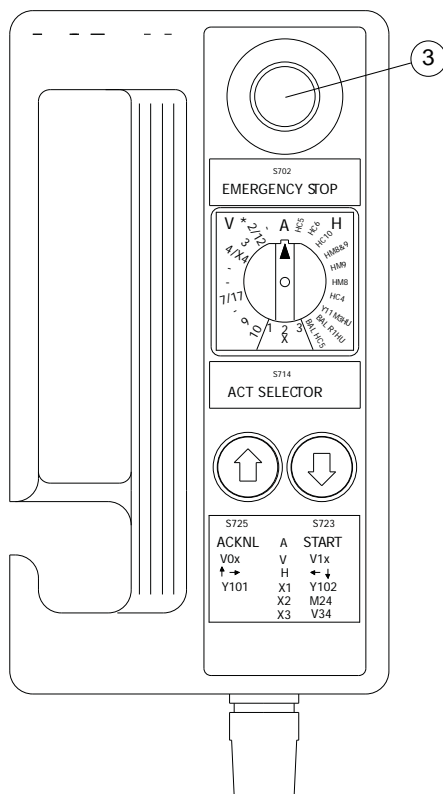

Figure 128. Hand held unit
3. Activate the emergency stop circuit by pushing the emergency stop push button S702 (3) from the handheld unit, see Figure 128.
4. Turn the filter main switch (S700) to 0-position on the control panel. Lock the main switch with safety lock and tag. For the location of the switch (2), see the drawing above.